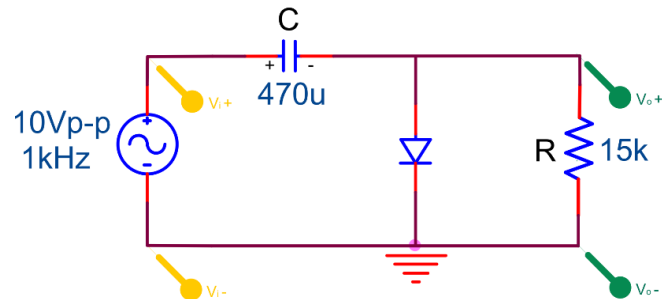

Figure 3.13
- Construct the clamper circuit shown in Figure 3.13. Observe the output waveform, v_o . Note if the signal is distorted and to what degree.
5. Construct the clamper circuit shown in Figure 3.13. Observe the output waveform, v_o . Note if the signal is distorted and to what degree.
5. Run a PSPICE simulation of Figure 3.13.